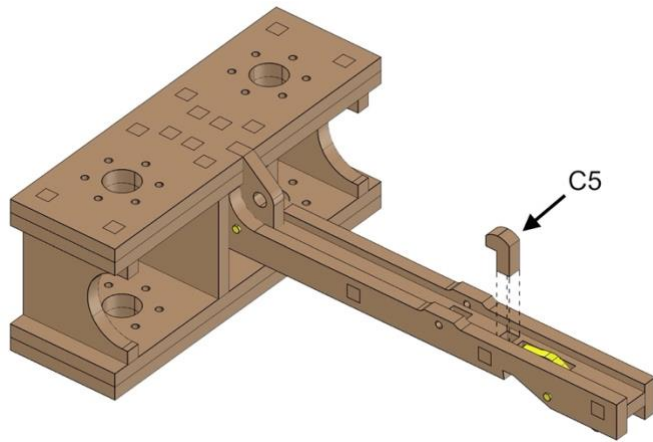

Fig. 25
- Align parts exactly as shown in *Fig. 25*.